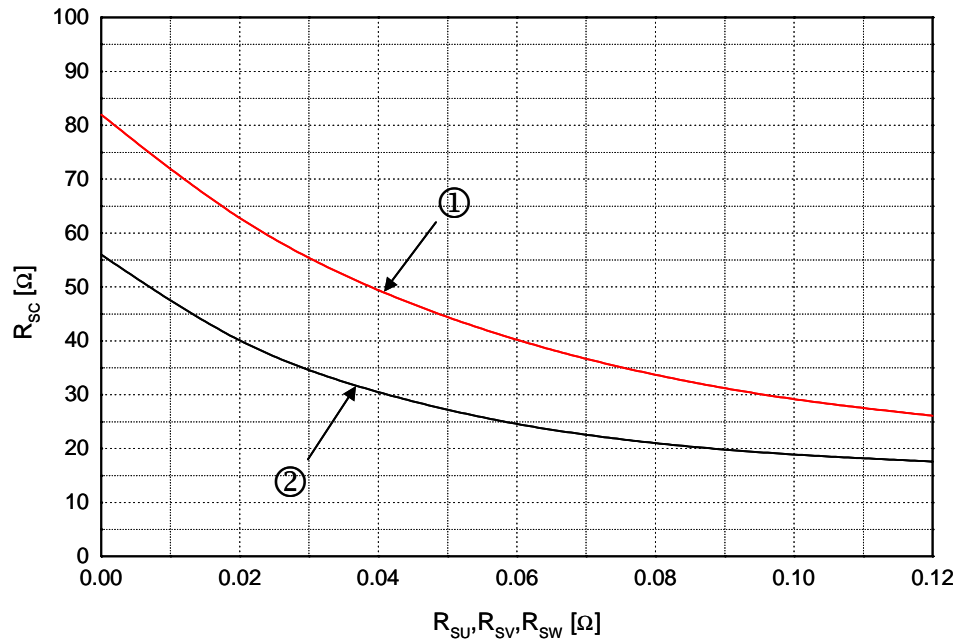

Fig. 7. R_{sc} Variation by change of Shunt Resistors (R_{su}, R_{sv}, R_{sw}) for Short-Circuit Protection
- Short-circuit current protection is functioning only at the low-sides. It would be recommended that the value of the external sensing resistor (R_{SC}) should be selected around 56 Ω in order to make the SC trip-level of about 15A at the shunt resistors (R_{SU}, R_{SV}, R_{SW}) of 0Ω. For the detailed information about the relationship between the external sensing resistor (R_{SC}) and the shunt resistors (R_{SU}, R_{SV}, R_{SW}), please see Fig. 7.
9. For the use of shunt resistors (R_{SU} , R_{SV} , R_{SW}), please see Fig. 7 in order to select the proper R_{SC} .